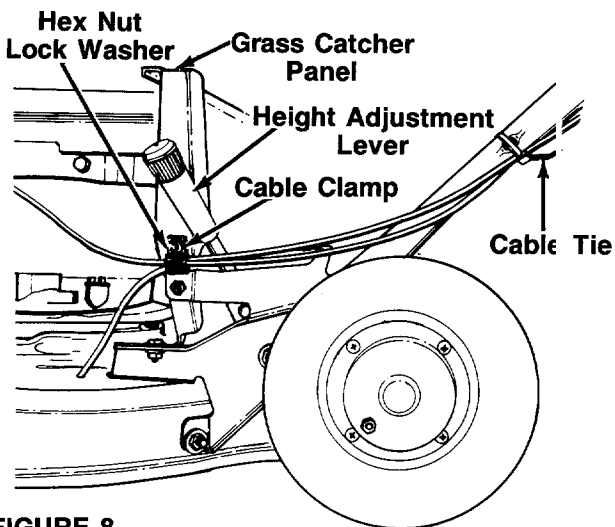

FIGURE 8.
2. Remove the hex lock nut and flat washer on the side of the grass catcher panel. Attach the cable clamp as shown in figure 8. Secure with lock washer and hex nut.